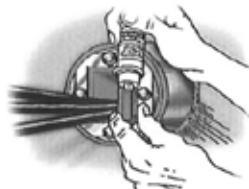

Figure 2
4. After the cable has been pulled, insert blocks are lubricated with tallow (Figure 2)